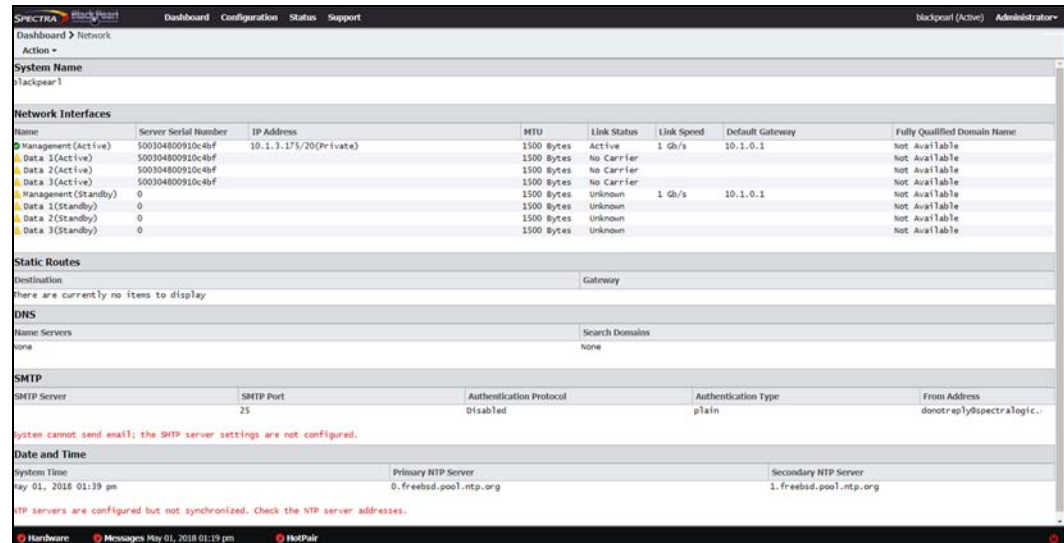

Figure 10 The Network screen.
1. From the menu bar, select **Configuration** **Network**, or select the Network pane from the Dashboard screen. The Network screen displays. See Figure 10 on page 23.
1. From the menu bar, select **Configuration** ⋮ **Network**, or select the Network pane from the Dashboard screen. The Network screen displays (see Figure 10 on page 23).
1. From the menu bar, select **Configuration**  **Network**, or click the Network pane on the Dashboard screen. The Network screen displays. See Figure 10 on page 23.